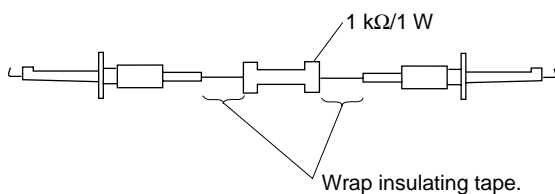

Fig. 5-1-5
- 1) Connect the equipment for adjustments according to Fig. 5-1-5.
2. Fabricate the discharging jig as shown in Fig. 5-1-5 locally by yourself. Connect the discharging jig to the positive (+) and negative (-) terminal of the flash voltage charge capacitor. Allow ten seconds to discharge the voltage.